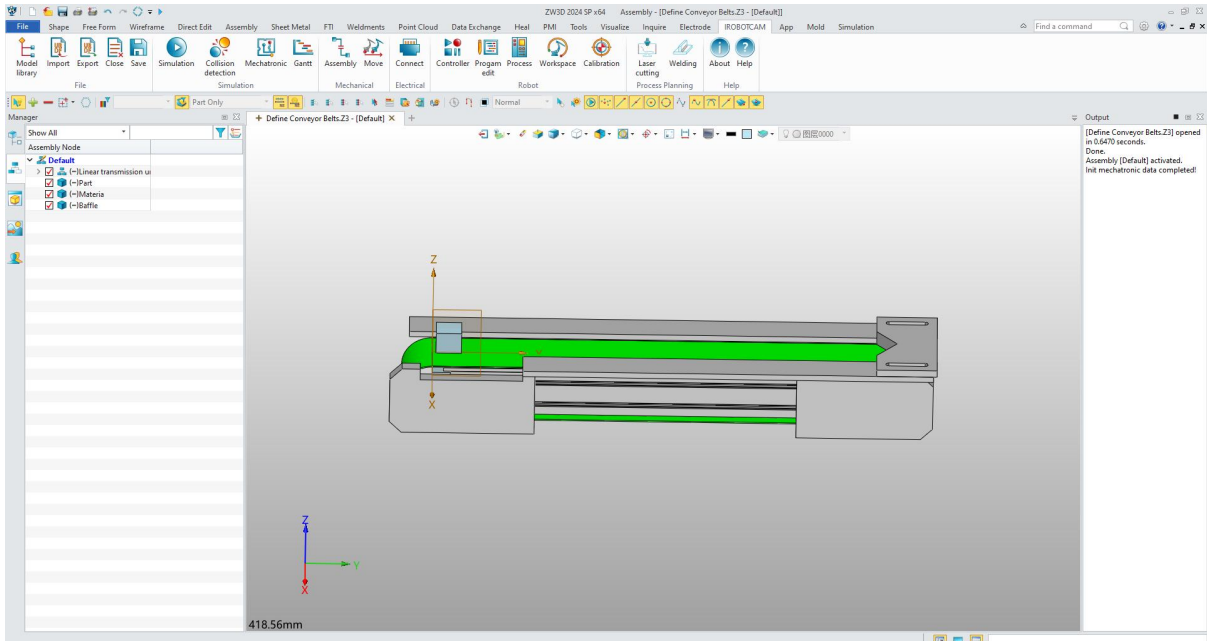

Figure 6-3: Component Details
- Wait for the import to complete. A message will be displayed in the output box confirming completion. (Figure 6-3)